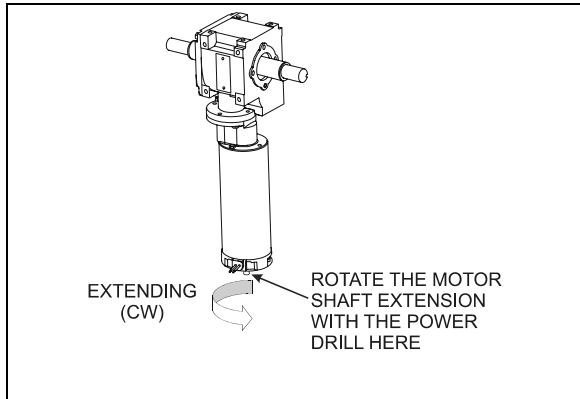

FIGURE 94: SLIDE-OUT MOTOR ROTATION
5. Rotate the slide-out motor shaft extension with the power drill until the slide-out comes to its opened position (FIGURE 94).
7. Finally, the inflatable seal can be re-inflated by turning the shut-off valve handle counterclockwise. Check the pressure gage on the inflatable seal regulator to see if the pressure is increasing to 10 psi (FIGURE 94).